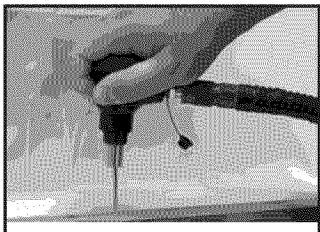

Figure 2-Driving Nails
3. Place the nosepiece down onto the top of the nail. Remove the fingertips of your other hand from nail. (See Figure 2, Page 5).
**WARNING:** To avoid injury, keep fingers completely above the lower half of tool when driving nails (See Figure 2, Page 5).